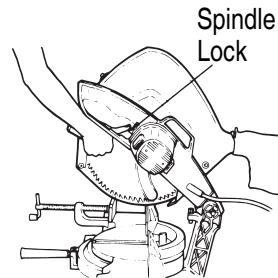
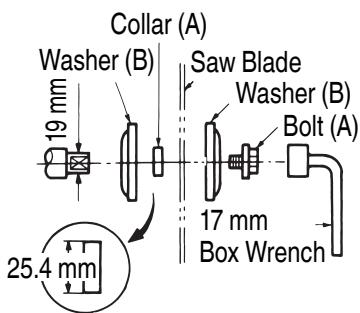

Fig. 12
Fig. 14
1. Mounting the saw blade (Fig. 12, 13 and Fig. 14)
- (2) Remove the bolt (A), washer (B) and collar.
- (3) Before mounting the saw blade, carefully clean and re-install the collar. The collar has an outside diameter of 25.4 mm as shown in Fig. 14.
- (4) Lift the lower guard and mount the saw blade.